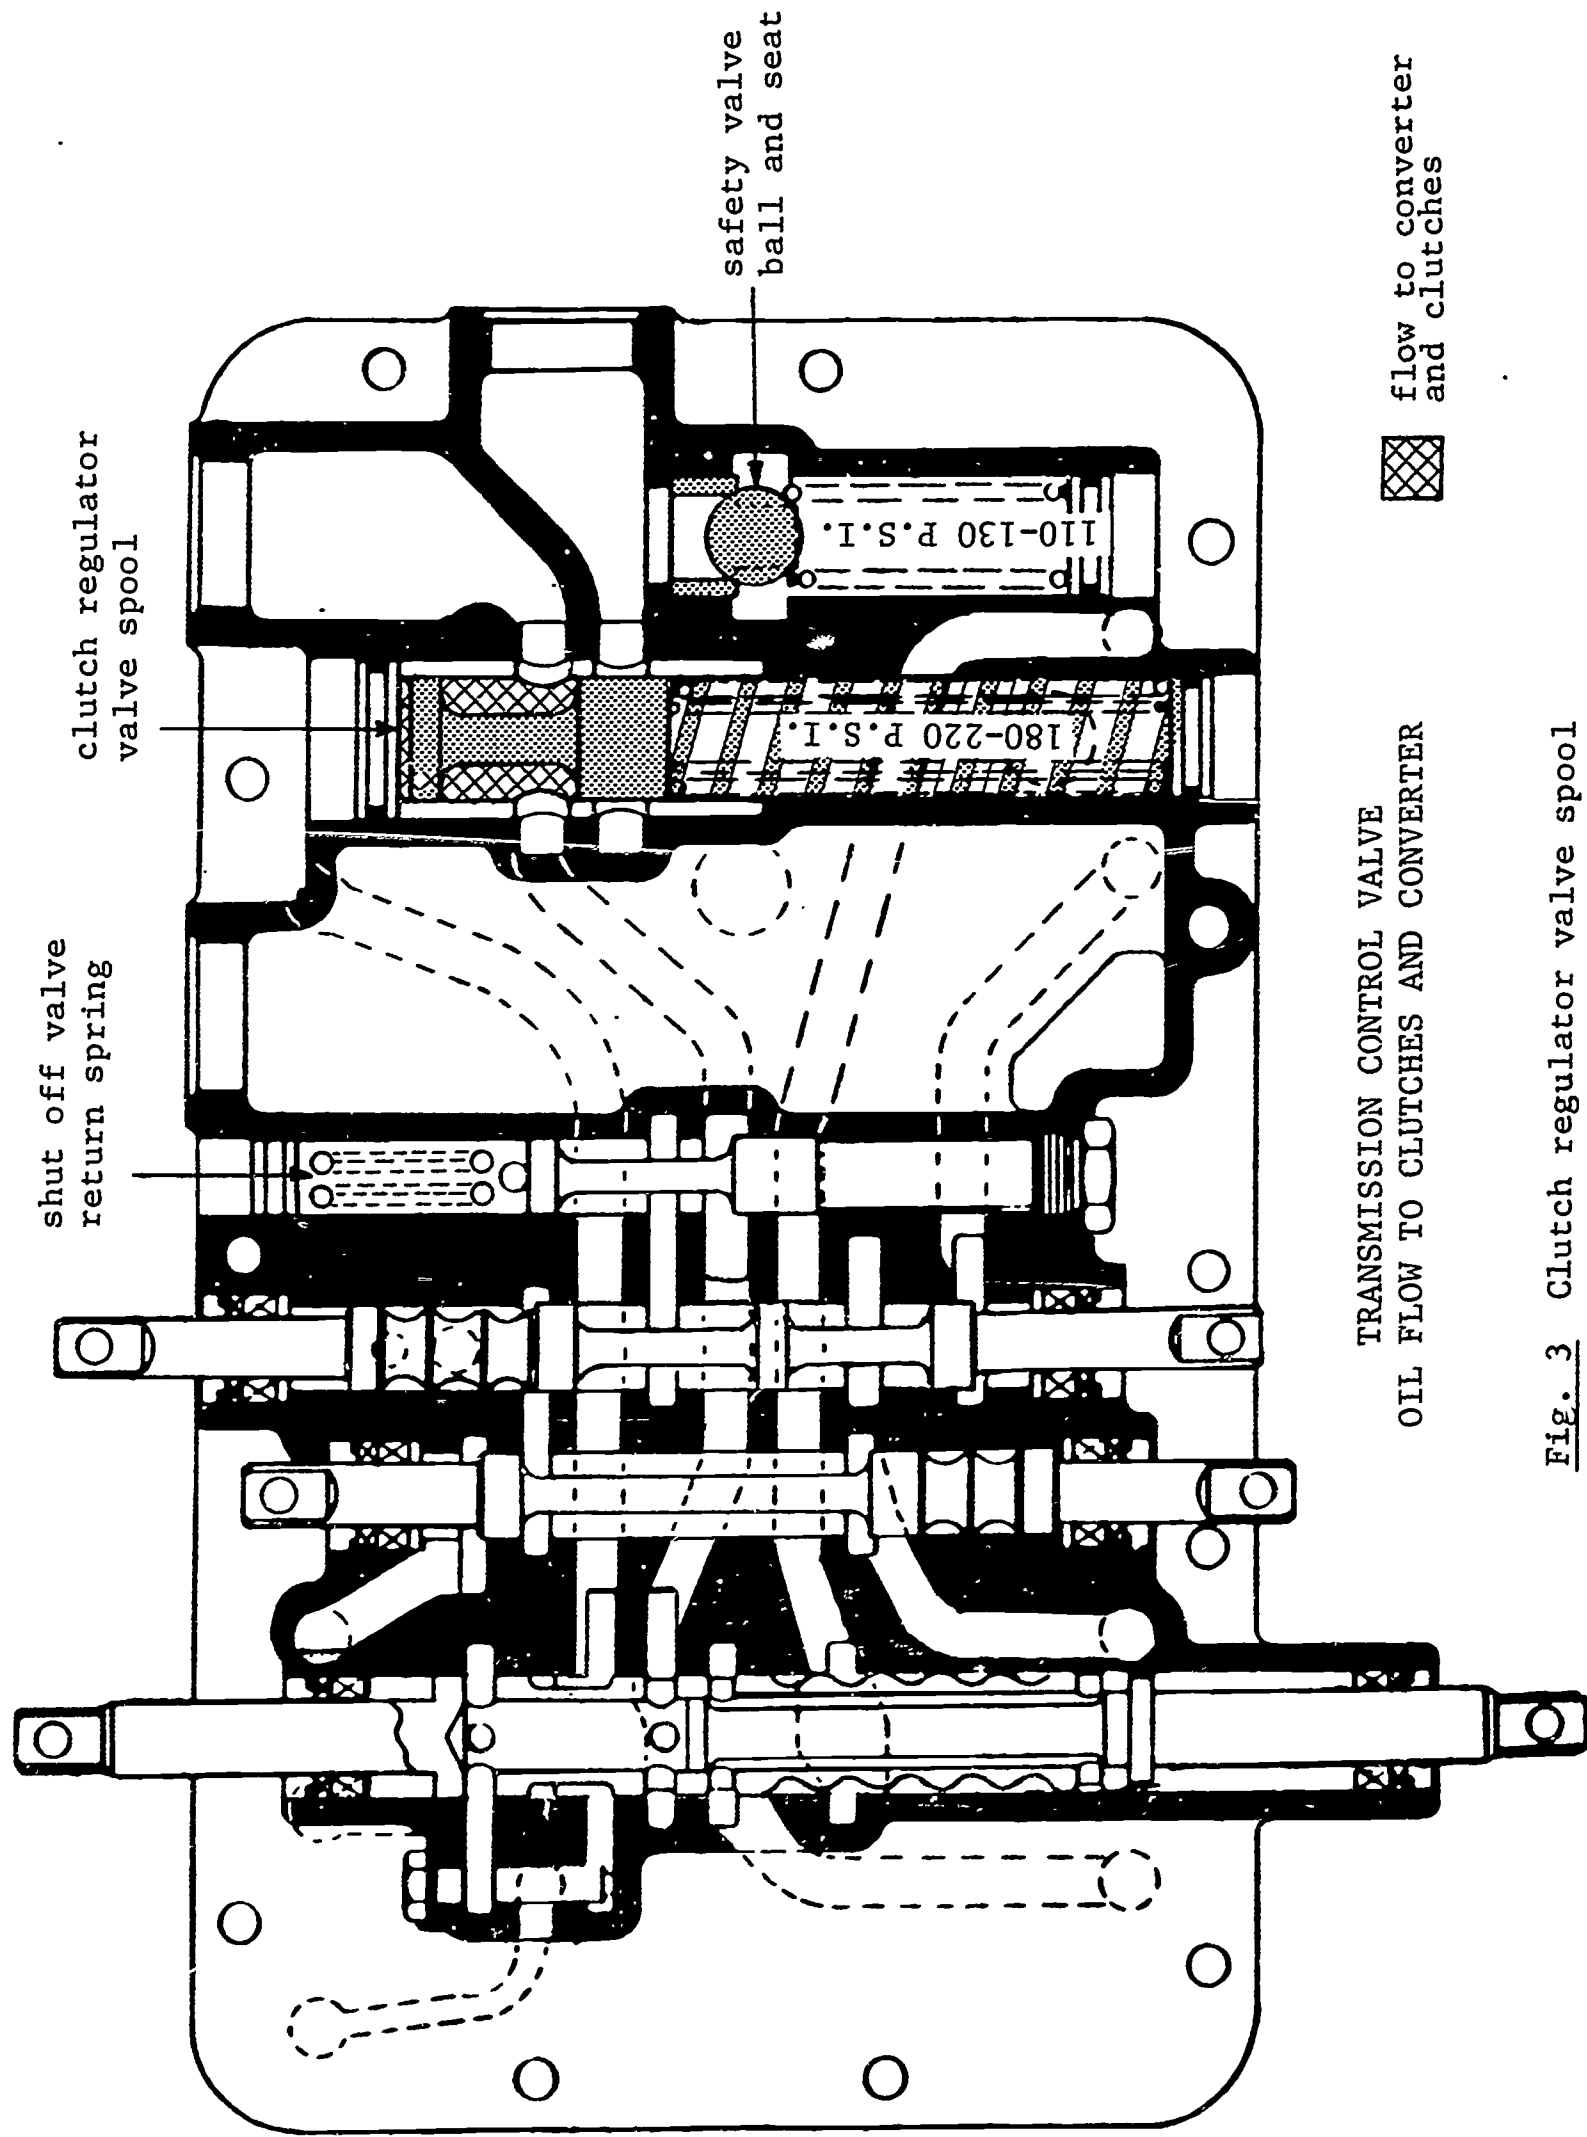

Fig. 3 Clutch regulator valve spool
Figure 3 shows an exploded view of the regulating valve. This valve consists of a hardened valve spool operating in a closely fitted bore. Notice in Figure 3 that the valve spool is backed up by a spring that holds the spool against its seat until a specified amount of oil pressure is built up. When enough pressure has accumulated to overcome the spring tension, the spool moves, and a port is uncovered which allows oil to flow to the converter.
The clutch regulating valve spool is designed to allow oil to pass through a small orifice, get behind the valve, and move it toward the spring. The larger end of the spool goes against the spring shown in Figure 3. If the valve was turned around by mistake during assembly, it would not block off the oil. The oil would then go to the converter and would maintain very little pressure on the clutches. Therefore, the vehicle would not move.
**SAFETY VALVE** -- The safety valve is built in the transmission control cover and will open to bypass oil only if an excessive pressure is built up due to a blocked passage. Looking at Figures 3 and 4, if the cooler became plugged due to dirt or foreign material, or if the downstream regulating valve stuck closed due to a particle of dust, the oil pressure would increase and blow an oil seal, causing leakage. Under these conditions, the oil would then bypass through the safety valve and back to the transmission sump. The pressure in the converter could never exceed the safety valve setting of 110-130 psi.